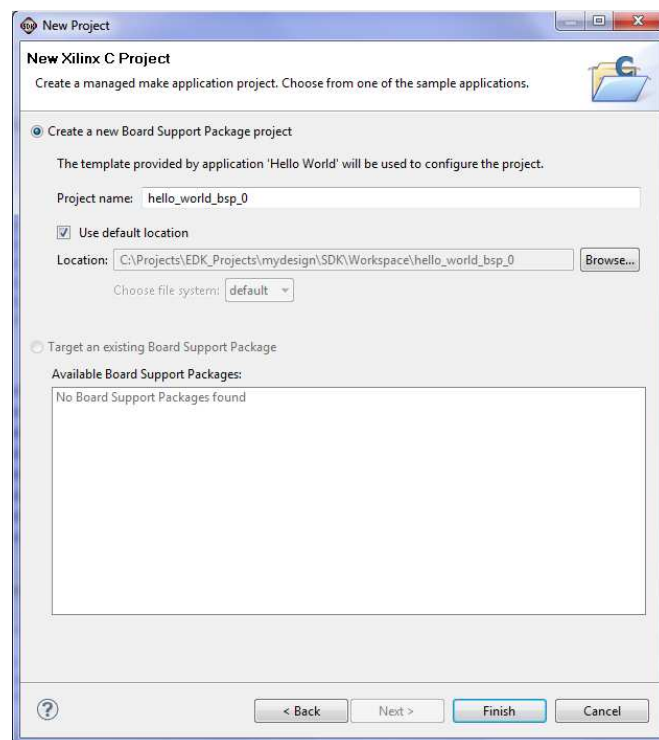

Figure 24. New Project (Step 6)
Step 6: The last screen of the new project wizard is shown in Figure 24. In this screen we create another project called the **“The Board Support Package Project”**. Each component of the hardware is associated with a software program that is responsible for operating the device called the driver. The source of each driver is copied from the EDK directories to Workspace to be compiled with the project. We will use these drivers to access the hardware, so it is important to create the **“Board Support Package Project”**. This screen, Figure 24, creates that project and names it **“Hello_World_bsp0”**.